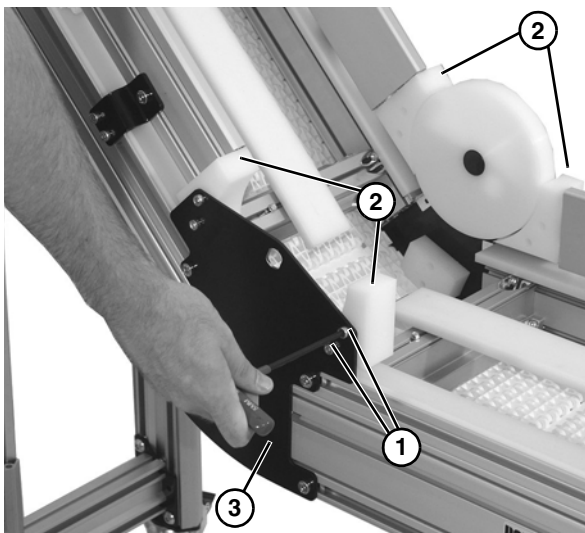

Figure 57
2. Remove two socket cap screws (**Figure 57, item 1**) for all four hold down guards (**Figure 57, item 2**) on side of lower knuckle assembly (**Figure 57, item 3**).